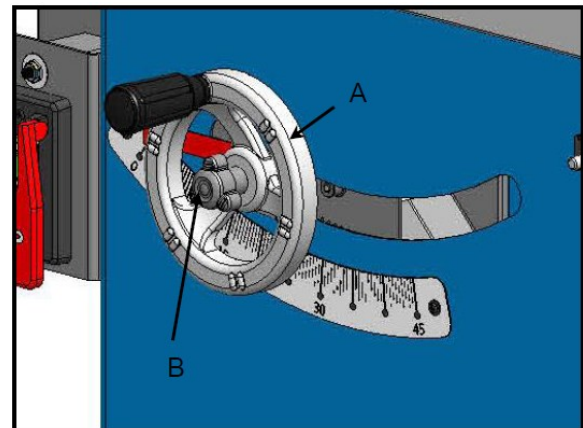

Figure 39
The blade height adjustment hand wheel (A) and lock knob (B) is located on the front of the saw. The lock knob (B) allows you to lock the blade height at your desired height. Figure 39